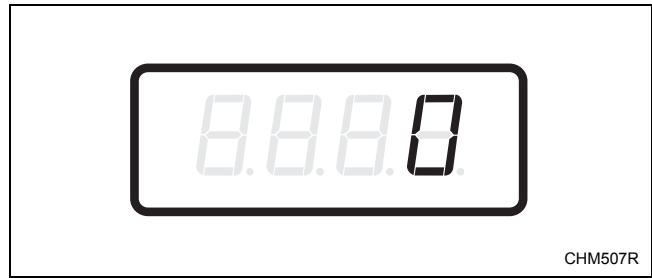

Figure 24
4. When “CnP1” appears in the display, press the START (enter) keypad. There are five digits in the Cycle Modifier Medium Price. The fifth digit will appear in the display and will flash for one second on, one second off. Refer to *Figure 24*.